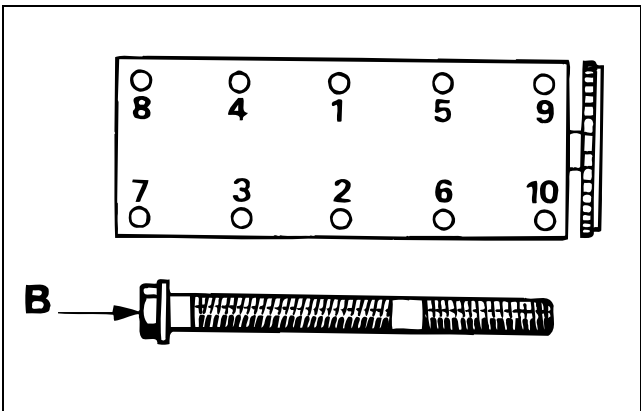

Figure 84
- 2. Pre-tighten the bolts in the order shown (Fig. 84) to a torque of 30 Nm (22 ft-lb).